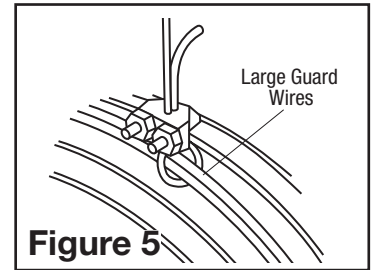

Figure 5
1. Loop one end of cable around the large guard wires of both the front and rear grills (**Figure 5**).
2. Attach a Cable Clamp with the "U" on the tail side of the loop leaving a tail approximately 1" to 2". Tighten Clamp Nuts. Make sure no part of the Cable interferes with the Blade (**Figure 5**).